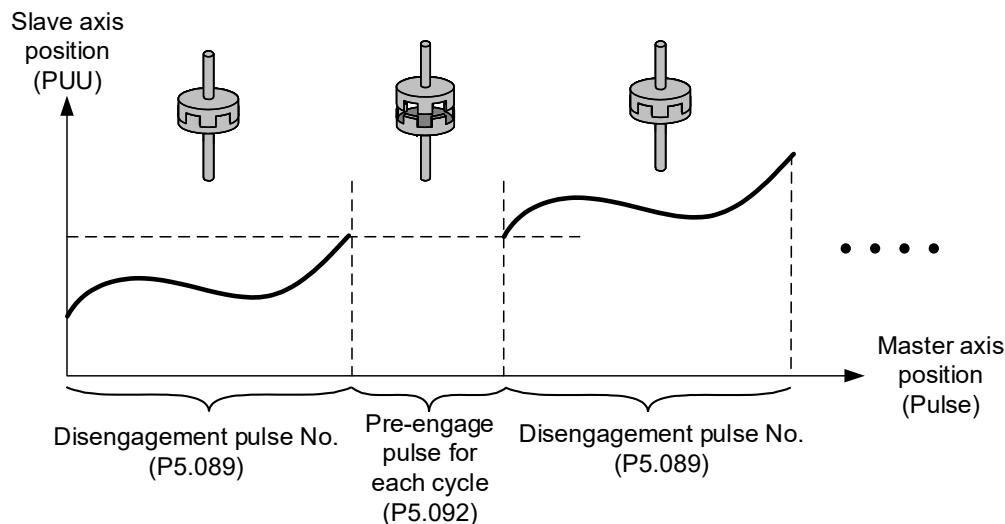

Figure 7-80 Disengagement timing: cyclic mode
- 5) Enter cyclic mode after disengagement (P5.088.U = 4): when the clutch is engaged and the pulse number of the master axis reaches the value set in P5.089, the clutch disengages and the master and slave axes enter the cyclic mode. Then, the E-Cam system goes into the pre-engage state and waits for the master axis pulse to reach the number set in P5.092. Next, the clutch re-engages and operation of the next cycle starts. See Figure 7-80.